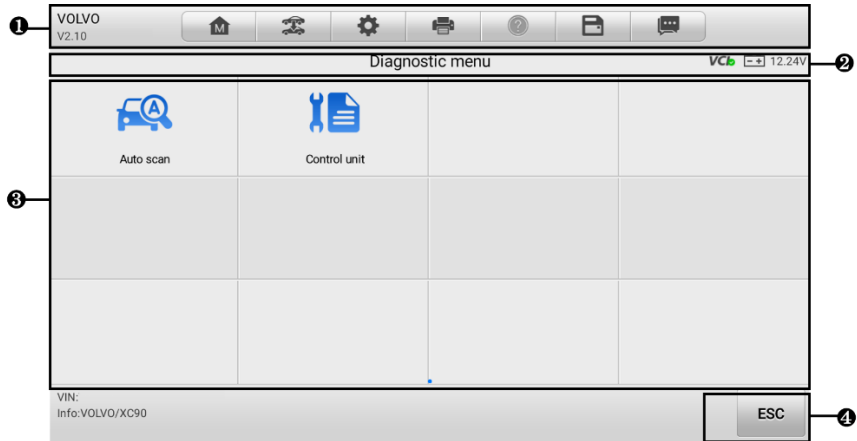

Figure 4-4 Diagnostic Menu Screen
3. Select **Auto Detect**. The tablet starts VIN scanning on the vehicle's ECU. Once the test vehicle is successfully identified, the system will guide you to the vehicle Diagnostics Menu screen. See Figure 4-4 Diagnostic Menu Screen.